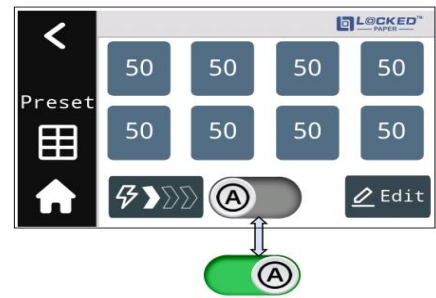

Figure 4a
1) Tap  in the homepage to enter this mode. (Figure 4a).